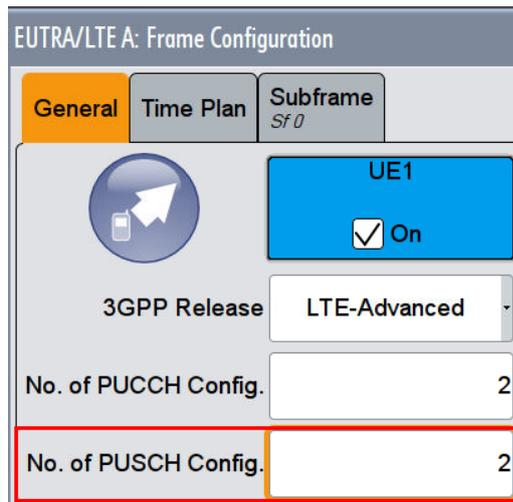

Fig. 3-144: UE1 and No of PUCCH Configuration
7. Set **No of PUCCH Config** to 2 (Fig. 3-144)